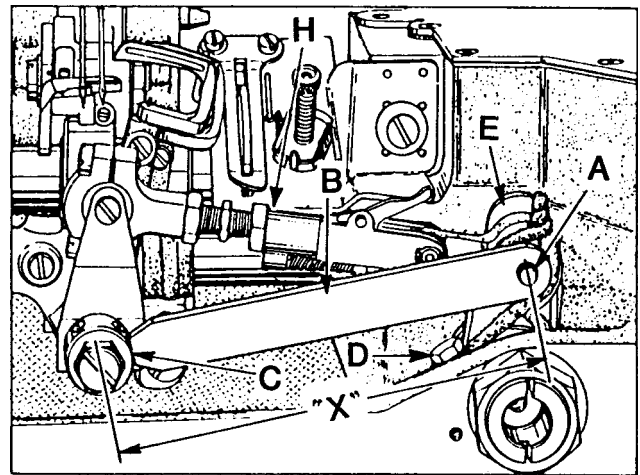
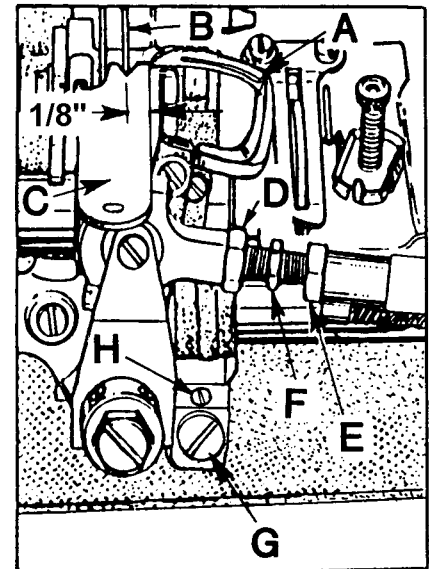

Fig. 6
Fig. 7
Turn handwheel in operating direction until looper is at the extreme right end of its travel. Check location of the center-line of right looper connecting rod bearing using gauge TT35. Place hole in gauge (B, Fig. 6) over threaded stud (A). The left end of gauge should locate against the RIGHT side of looper rocker cone (C). If adjustment is necessary, loosen clamp screw (D), reposition looper driver lever (E) as required and retighten screw (D). If a gauge is not available, the setting can be checked with a scale. "X" dimension is from centerline of stud (A) to centerline of cone (C) which should be 4 1/16 inch (103.2mm).
CAUTION: After adjusting the looper gauge and looper avoid, there should be shake at both end points of the looper connecting rod while rotating handwheel a full 360° (H, Fig. 6). If bind occurs loosen nuts (D and E, Fig. 7) and reposition strap (H). Retighten nuts.
Insert a new needle, type and size as specified. Using the 1/8 inch (3.2mm) looper gauge, set the looper (A, Fig. 7) so the distance from the center of the needle (B) to the point of the looper is 1/8 inch (3.2mm), when the looper is at its farthest position to the right.
If adjustment is necessary, loosen lock screw (G, Fig. 7) and turn stop screw (H) as required. Turning stop screw clockwise sets the looper to the rear and turning it counterclockwise acts the reverse. Holding looper to the front while making this adjustment may prove helpful. Tighten lock screw when setting is obtained and recheck the adjustment.